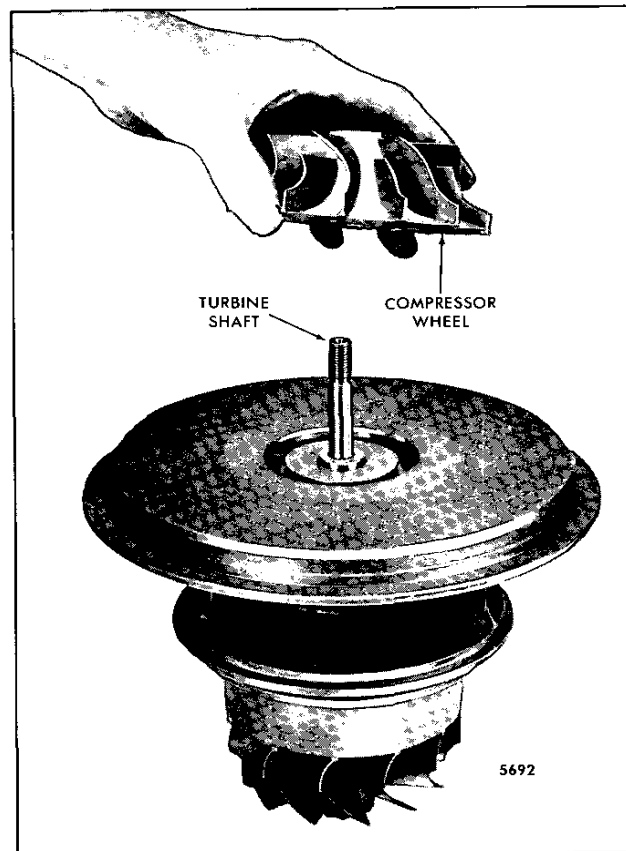

Fig. 6 – Removing Compressor Wheel from Turbine Shaft
6. Remove the compressor wheel from the turbine shaft assembly by hand (Fig. 6). The wheel is a slip fit on the shaft.